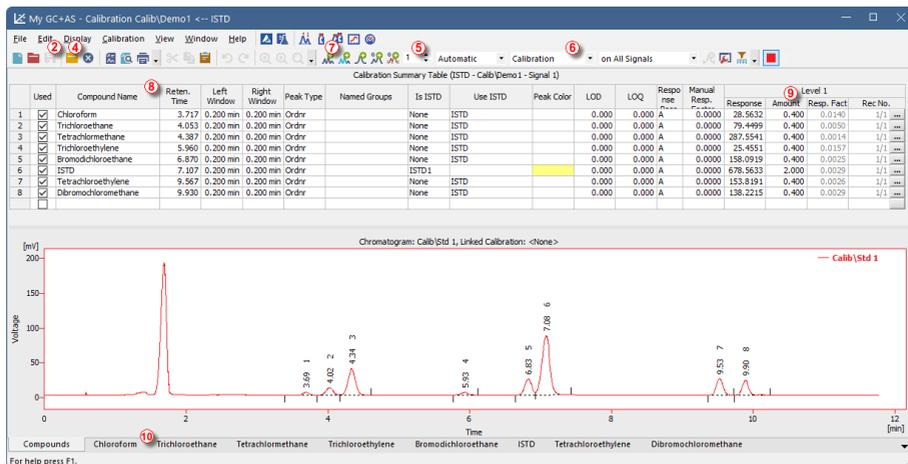

Fig. 9: Calibration window - loaded standard
- Only one signal of the chromatogram can be active at a time. The active signal can be recognized from the legend section ① in the upper right corner of the graph (active signal is set in bold), from the icons in the *Overlay* toolbar ② (the active signal has the highlighted  icon) or from the graph outline color and table headers color. Values inside the tables change by changing the active signal.
- Change the active signal by double clicking on its name in the legend section ① . Change the color of the currently active signal to another one by clicking ③ on the *Not used color*  icon in the *Overlay* toolbar. All parts of the *Chromatogram* window mentioned in the previous step will change color.
- Click in any row in the *Result table* ③ . The peak (or peaks) corresponding to the row you just clicked into will change color according to the color of the signal. This change will last until the focus in the *Result table* is canceled.
- To add permanent color to the peak, click the *View* button ④ in the right side of the *Results* tab. This will get you to the linked calibration file. There, in the *Calibration Summary Table*, find the *Peak Color* column (see **Fig. 9** on pg. 21.). In the row corresponding to the peak to be colored select the appropriate color and click *OK*. Return to the *Chromatogram* window by using the  icon in the toolbar. The selected peak is now colored according to the color selected in the *Calibration* window (green in our case).
- You can change the integration of peaks by using the interactive icons in the toolbars on the left side of the *Chromatogram* window ⑤ , by using commands from *Chromatogram* menu ⑥ or directly in the *Integration* tab ⑦ . Any changes made either way will change the **Integration table** and can be copied to the template method. To do so, click on *Method - Save as Template...* menu command.
- It's recommended to check that the **Current Level** field **5** is set to 1, however, this is only for your orientation, because when **Calibration** option **6** is selected response is added to the first empty level regardless of which one is displayed. It is important to be on correct level when using **Recalibration** option. Use the **Add All** icon (blue) **7** to move all identified peaks to the calibration table. The Calibration table appears in the **Calibration** window, ready to be completed as seen on **Fig. 9** on pg. 21.
- As it can be clearly seen in the calibration, particular peaks are now identified according to their retention times only. Click and edit the fields in the **Compound Name** column **8** to those seen on **Fig. 9** on pg. 21. You may also set the peak color for some peak, for example the ISTD peak, in the **Peak Color** column.
- icon (blue) ⑦ . Fill in the *Amount* column with 1.0 values (except for the ISTD peak, in which the 2 value should be used again).
- Set the third calibration level accordingly using the STD 3.PRM file and *Amount* of 3.0 and the fourth level (file STD 4.PRM, *Amount* 5.0) except for the ISTD peak (*Amount* 2 every time). On the tabs of the individual compounds ⑩ , the linear four-point calibration can be seen. Save the calibration file now using the *Save Calibration* ④ icon ② under the name CALIBDEMO.CAL into the default directory.